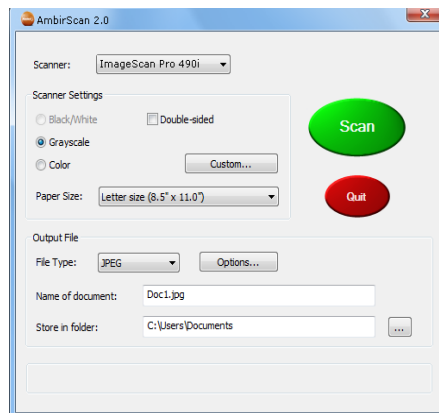

Figure 1
- 1) The first is by utilizing the AmbirScan 2.0 control panel (Figure 1) that allows you to select from the most common paper sizes, image settings and basic file output information (location & name of your document). These files can be saved in multiple file formats. If you need to scan multi-page documents please select PDF format.